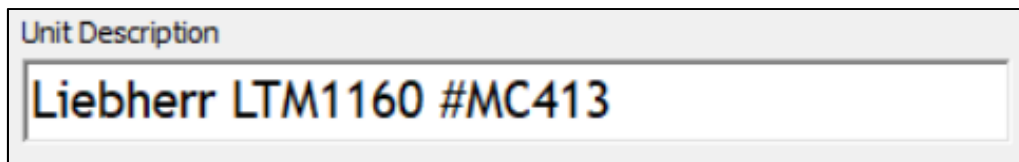

Figure 25
- Click on the Unit Description box (**Figure 25**)